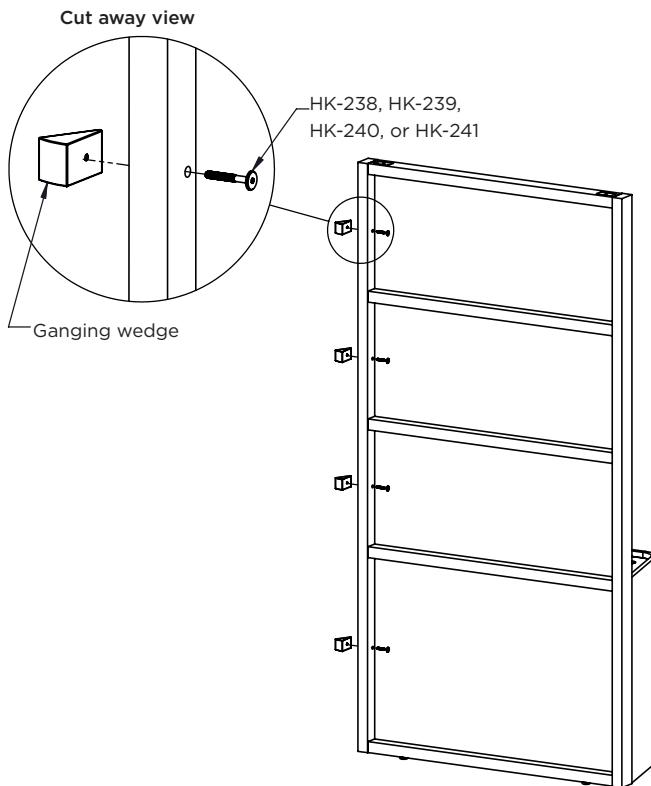

Figure 5B
2. For 90" h to 90" h planters. Locate ganging hardware connector bolts (HK-238, HK-239, HK-240, or HK-241, color dependent). The infill type will determine which hardware kit is used. Reference table below to identify the appropriate length. Using the  $\frac{5}{32}$  hex key, secure the ganging wedges to the planter frame using the connector bolts. For 90" h to 90" h planters, there are four connection joints per side. (Figure 5B)